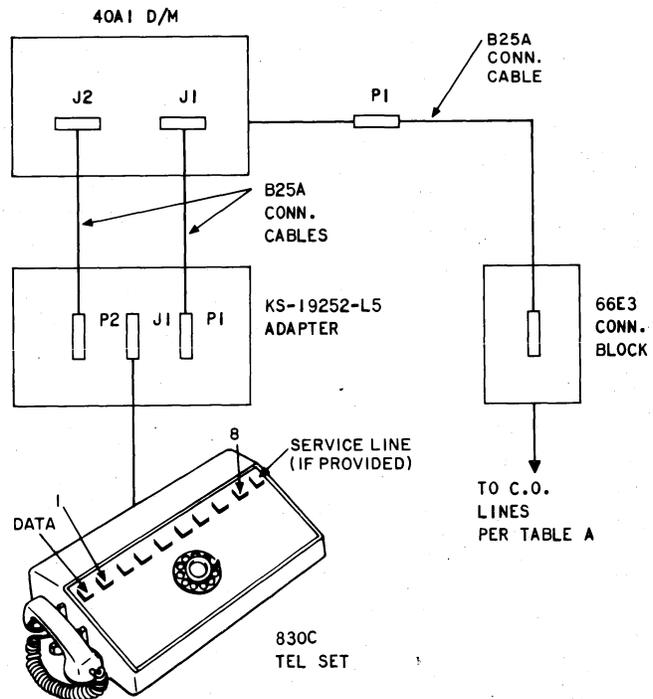

Fig. 7—202S Data Station Arrangement for 6 to 8 Data Sets With 830C Tel Set
3.13 830C or 2830C Telephone Set: If an 830C or 2830C tel set is used, insert plug number 2 of the tel set into the J1 connector of the KS-19252-L5 adapter of the first 40A1 data mounting. Insert plug number 1 into the J1 connector of the KS-19252-L5 adapter of the second 40A1 data mounting. Plug P1 and P2 of the adapter into J1 and J2 of the 40A1 data mounting, respectively, using B25A cables (Fig. 7).